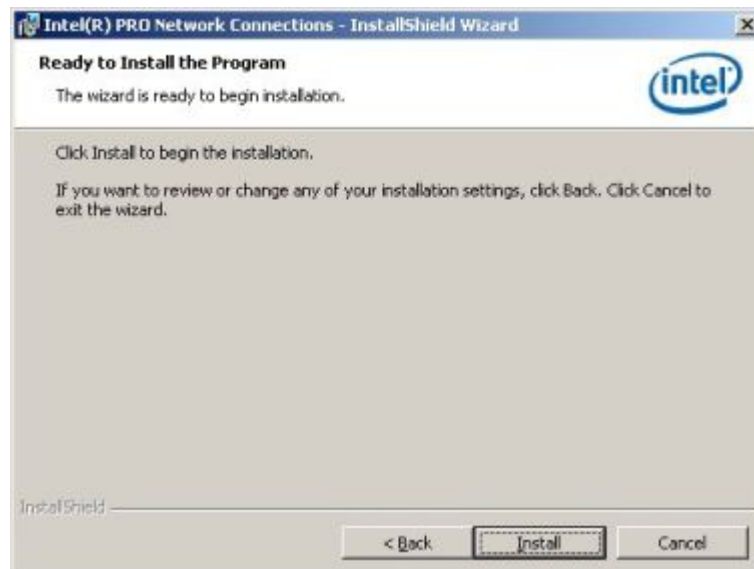

Figure 7-24: Intel® 82566 Driver Installation Ready Window
Step 17: The **Ready to Install the Program** window in **Figure 7-24** appears.
Step 18: Click **INSTALL** in **Figure 7-24**.